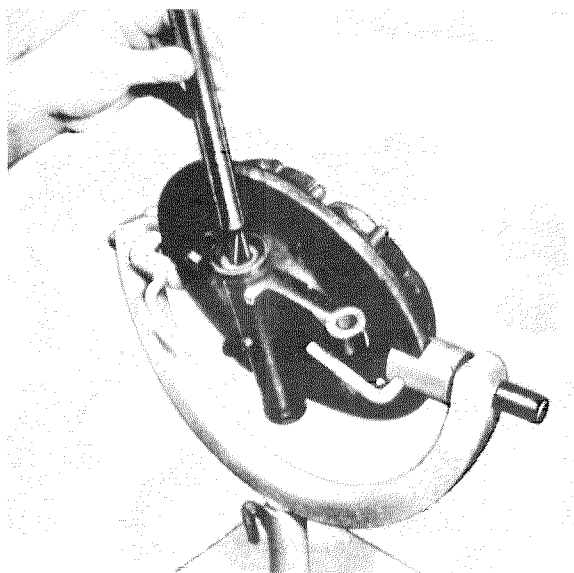

Fig. 33 — 5/2
6. If necessary, knock the bushings with the aid of Special Tool 136 589 09 39 (Forcing Arbor) out of the steering knuckle (Fig. 33 — 5/2).